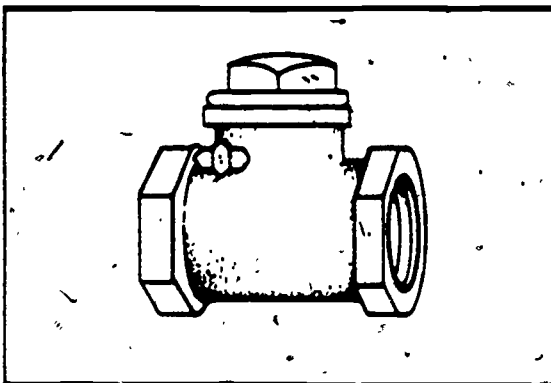

Figure 1-40. Check valve.
**Check valves.** Check valves, one of which is shown in figure 1-40, are used when it is necessary to control the flow of gases or fluids in one direction only. The flow in the proper direction keeps the valves open, and reversal of flow closes them automatically. There are two basic types of check valves: swing check valves and lift check valves. Both types have several variations that make them suitable for specific plumbing installations. They are used on hot water tanks to prevent hot water from backing up in the cold water lines, or anywhere on a plumbing system where free flow is needed in one direction only. Check valves are marked with an arrow which indicates the inlet opening or direction of flow for installation purposes.